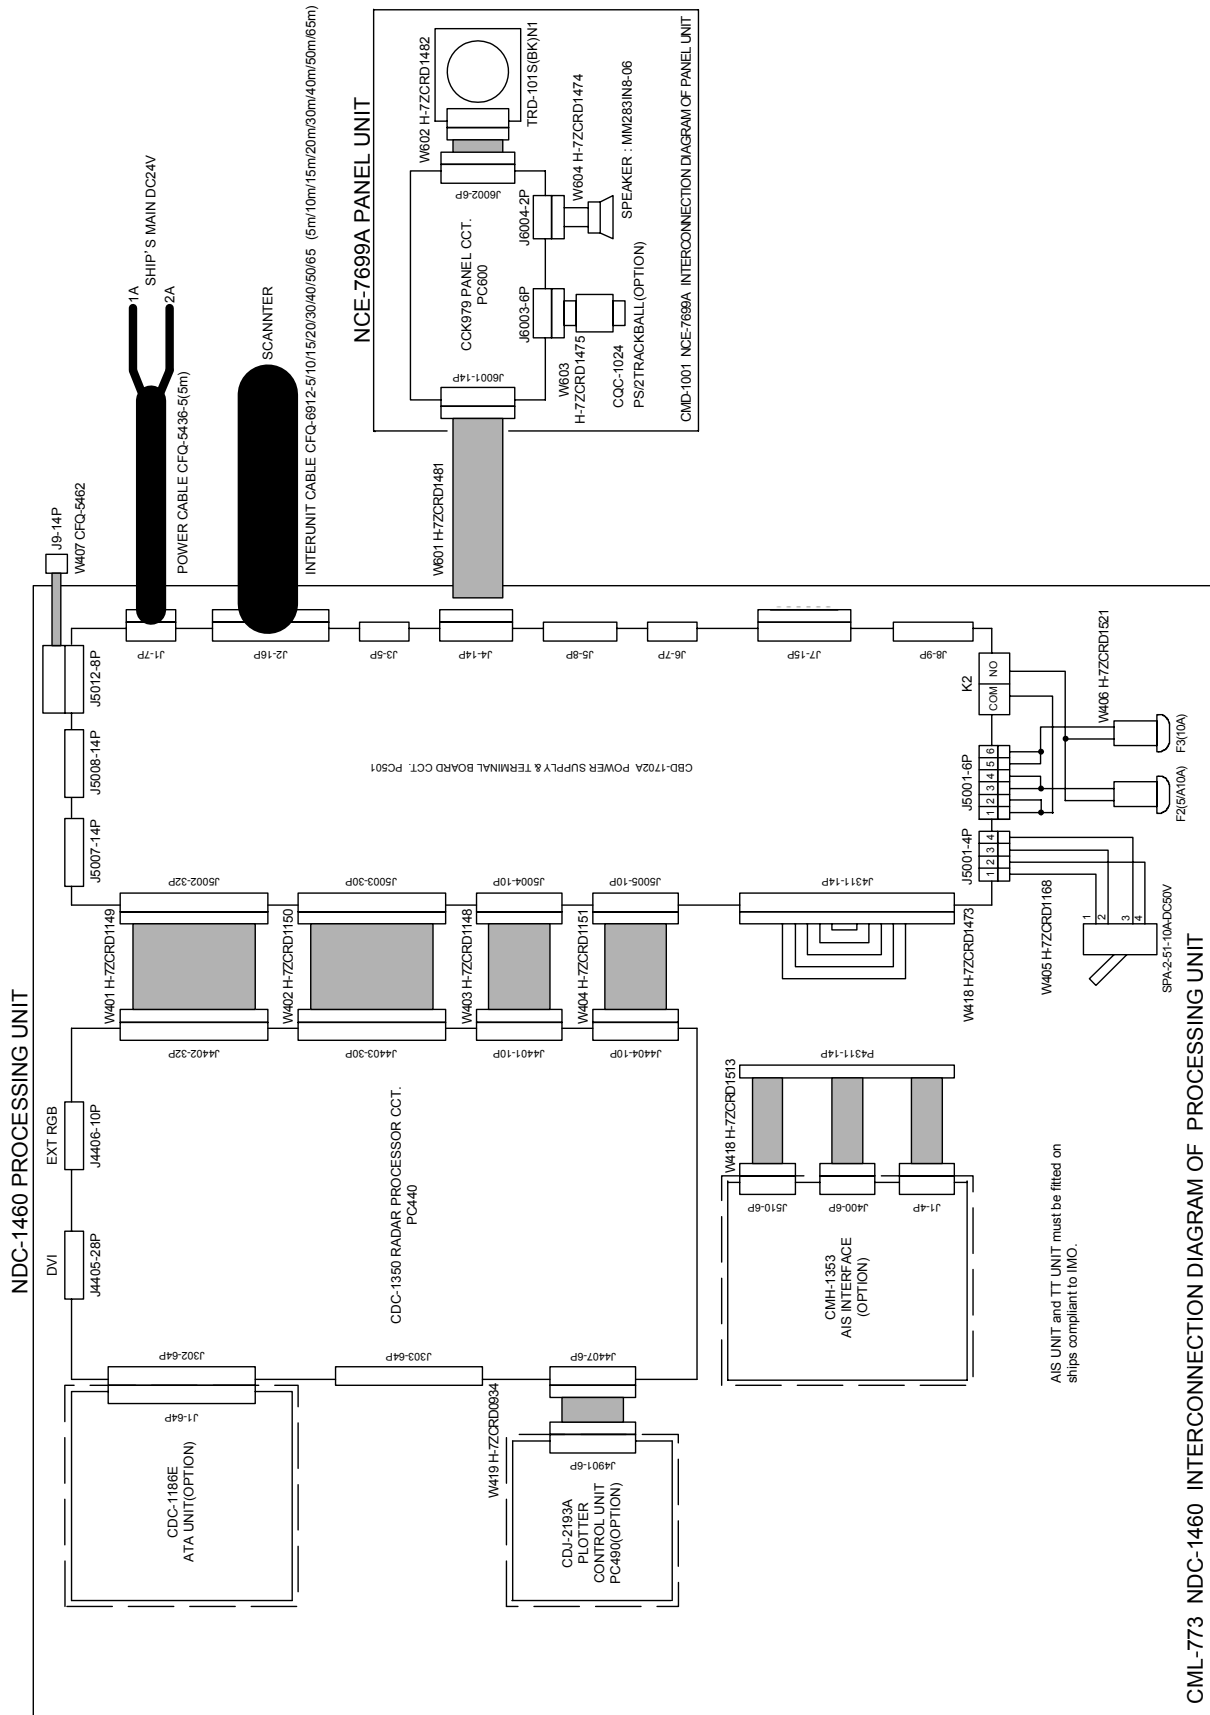

Figure 6 Processor Unit, NDC-1460 Inter-connection Diagram
- FIGURE 6 PROCESSOR UNIT, NDC-1460 INTER-CONNECTION DIAGRAM**